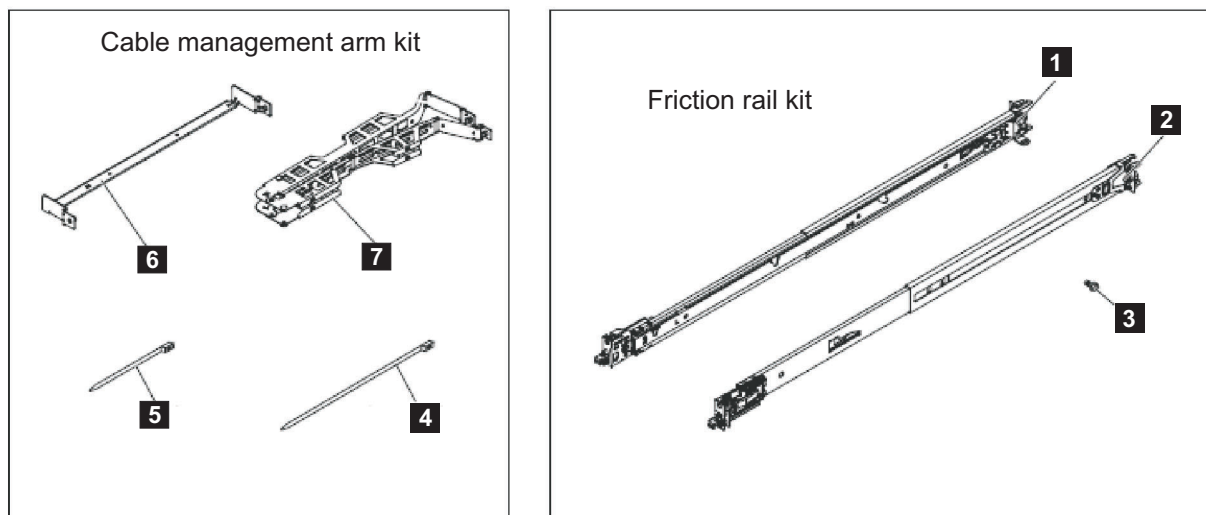

Figure 20. SAN Volume Controller 2145-CG8 cable-management arm, support rails, and associated parts
Figure 20 shows the items that you need to install the SAN Volume Controller 2145-CG8 node in a rack.
1. Verify that you have all the items that you need for installing the support rails and that you have identified the front of each rail, as shown in Figure 20 on page 26.